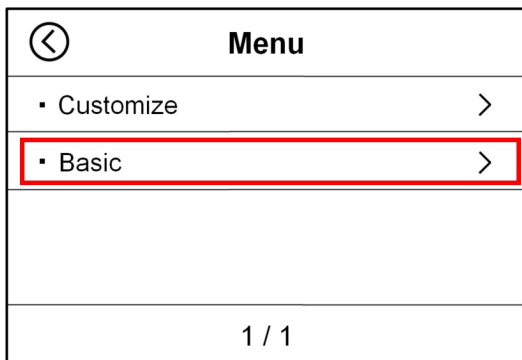

Figure 38
1) In the main interface of the machine, press the "MENU" button on the right to enter the "MENU" interface shown in Figure 38 below. Then touch the "Basic" option to enter the "Basic Settings" interface, as shown in Figure 58 below.